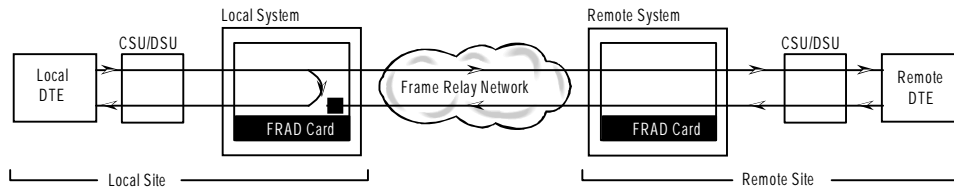
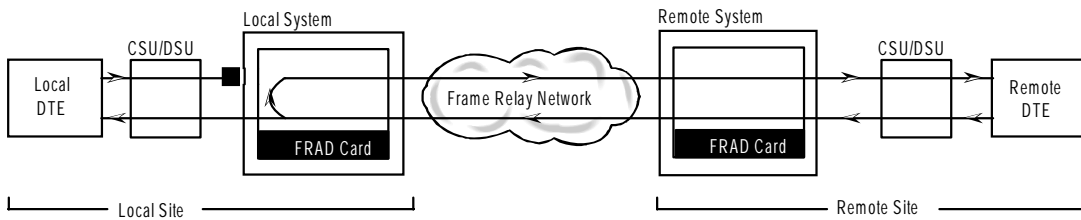

Figure 4-2. DTE Loopback
Figure 4-3. Network Loopback
The Loopback (LB) setting allows you to activate a number of different loopback options for RS232. The **off** option is the default setting. The **dte** (DTE) option (shown in Figure 4-2) loops data from the local DTE back to itself through the local FRAD card. The **net** (network) option is shown in Figure 4-3; it loops data back toward the distant DTE through the local FRAD card.